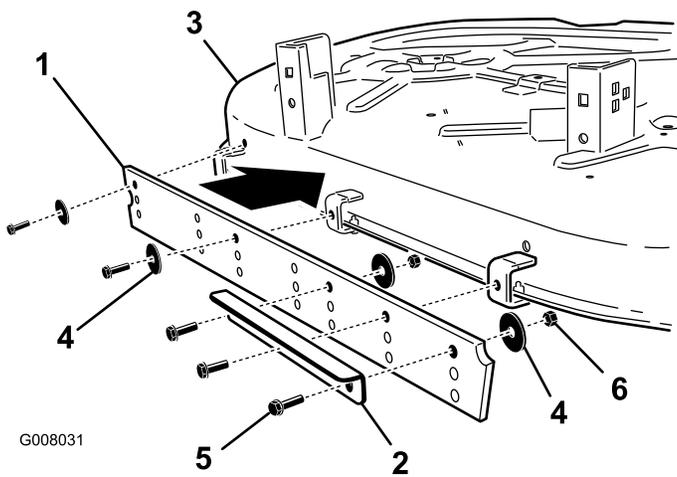

Figure 4
5. Install the stabilizer plate to the wiper at the point shown in Figure 4 using 2 bolts (1/4 x 3/4 inch), two washers, and two lock nuts (1/4 inch).